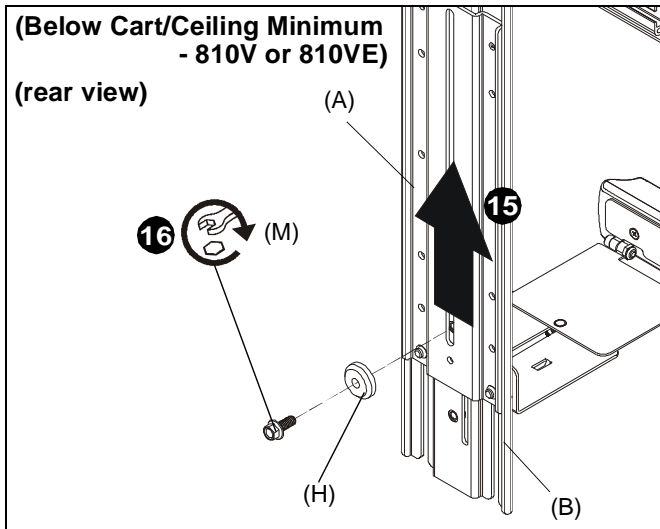

Figure 15
15. (For **minimum extension**) Slide upright bracket (A) behind main bracket (B). (See Figure 15)
16. (For **minimum extension - 810V or VE**) Use 1/4-20 x 5/8" hex head flange bolt (M) and center washer (H) to secure upright bracket (A) to main bracket (B). (See Figure 15)